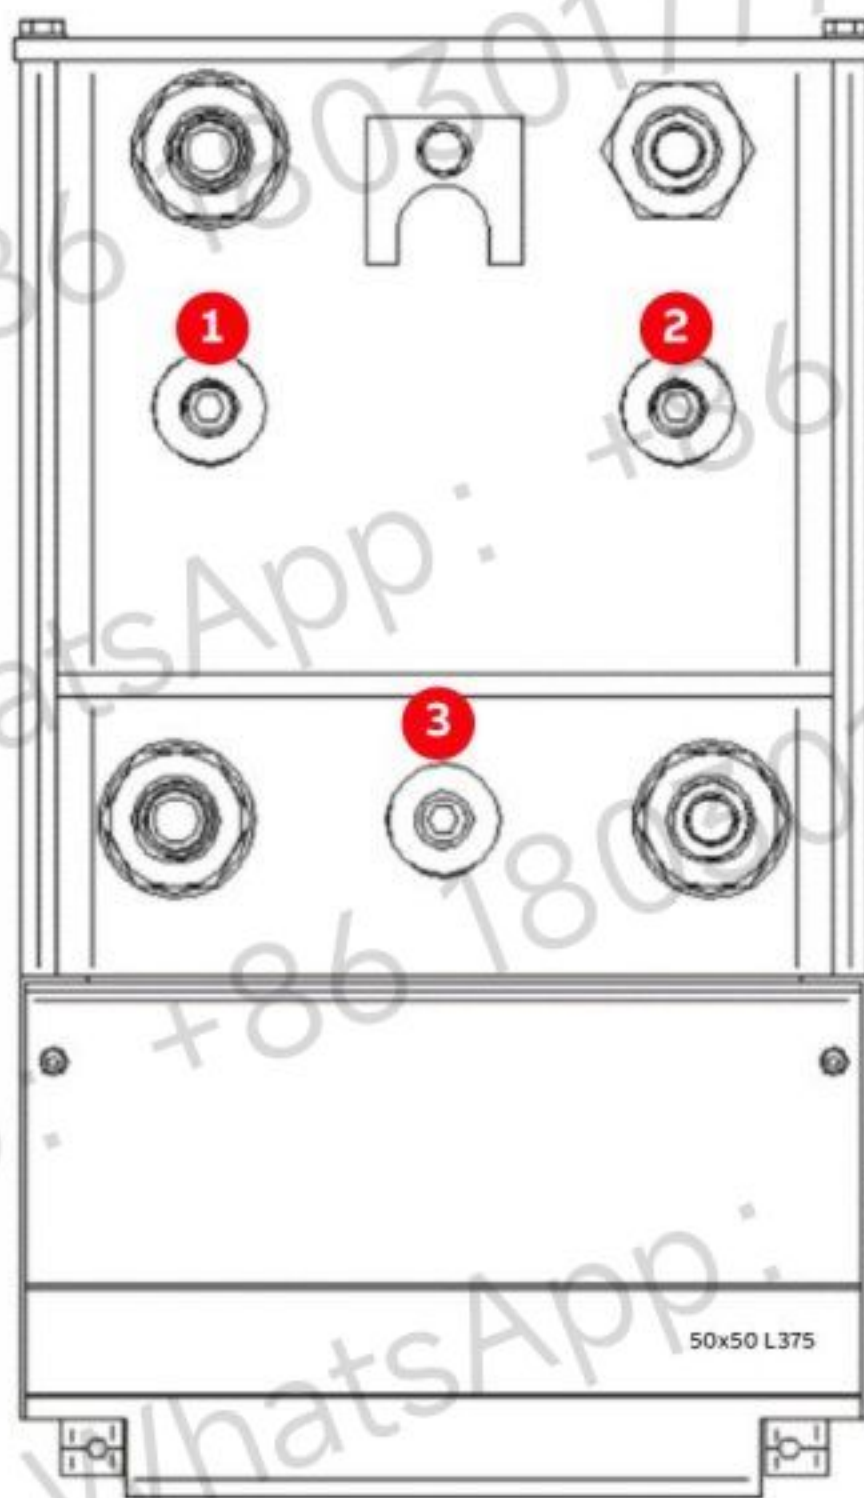

Figure 10–6 Order of loosening the clamping screws
5. Release all three stacks in the order given in Fig. 10–6 by loosening the clamping screws counter-clockwise using the socket wrench with 12 mm Allen socket.